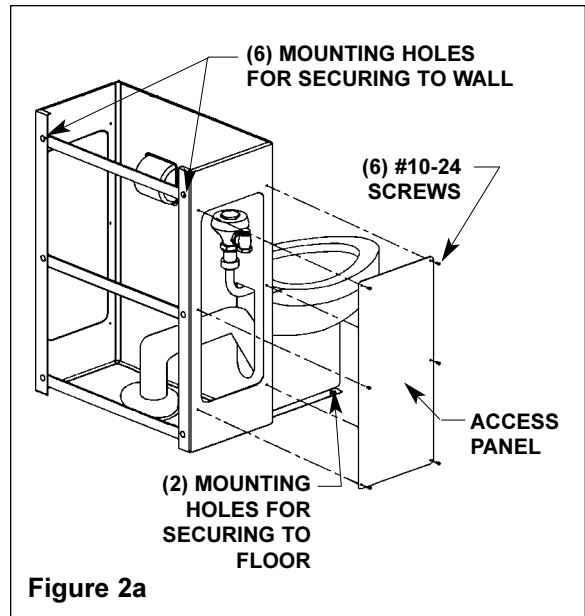

Figure 2a
1. Remove the #10-24 screws from the three access panels (one on each side and one on the front) and lift off the panels (see Figure 2a/2b). Set the screws and access panels aside.
2. Position the LC500 module in place against the wall and piping. Mark the locations for the six wall anchors on the wall and the two water closet anchors on the floor (see Figure 2a/2b).
4. Using a 5/8" concrete drill bit, drill two 2-1/8" deep holes into the water closet anchoring locations (see Figures 2a/2b and 3). Holes must be clean and free of debris.